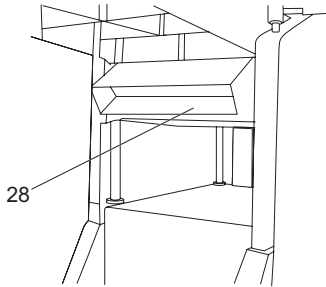

Fig. 19
- > Once fitted correctly, the extraction port should look as in Fig 19.